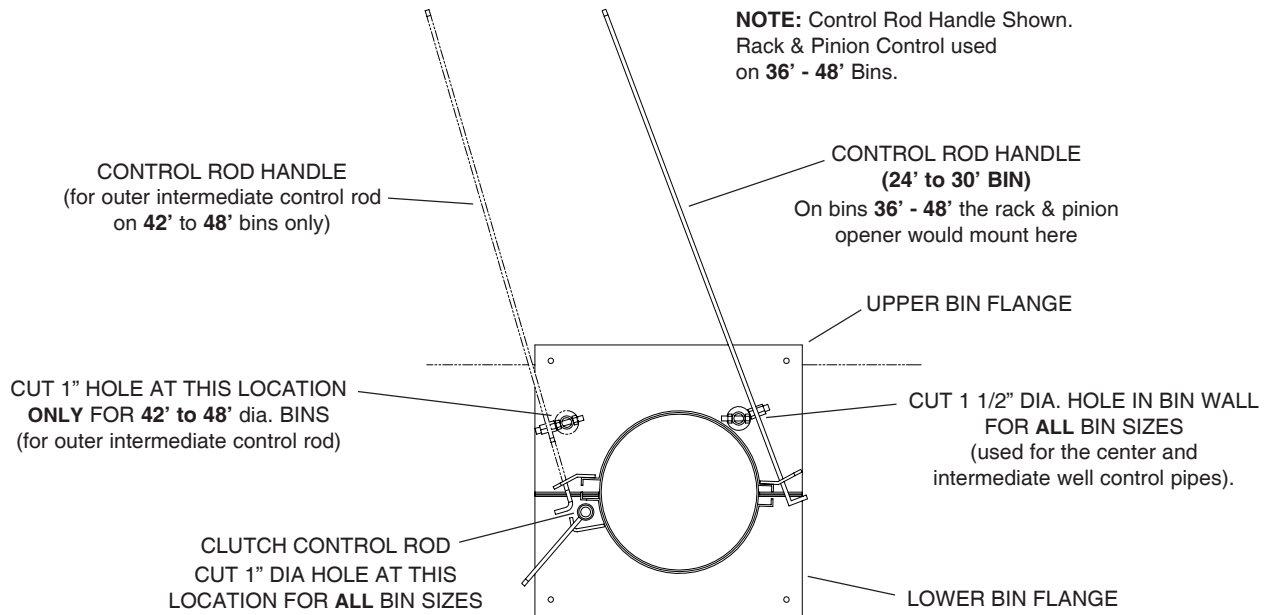
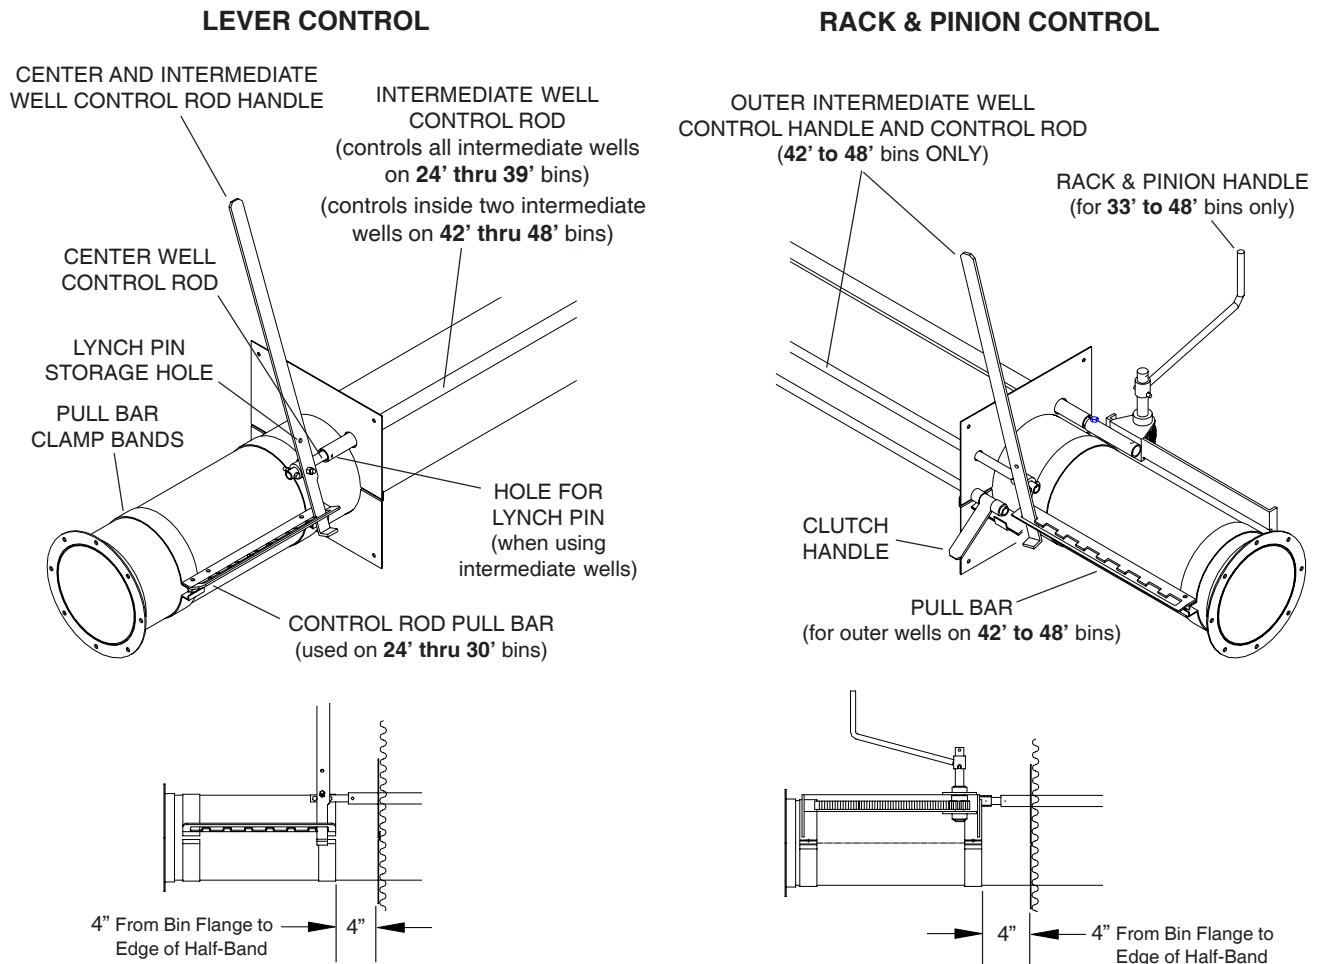

FIG. 12
FIG. 18
- B. For **all bin sizes**, cut a 1-1/2" diameter hole for the center and intermediate well pipes (See Figure 12). For bin diameters of **42' to 48' only**, cut a 1" diameter hole on the upper flange (left side of the unloading tube) for the outer intermediate well control pipes (See Figure 12).
- C. For **all bin sizes**, cut a 1" diameter hole for the clutch control pipe located lower left of the unloading tube. (See Figure 12).
8. Install control rod handle and pull bar assembly onto the unloading tube (See Fig. 18), also reference Fig. 5 on Page 8 and Fig. 12 on Page 14.
- A. Attach control rod pull bar to the unloading auger housing using 10" x 2" half-bands and 5/16 x 1 1/2" bolts and nuts (position edge of half-band 4" from bin flange, See Fig. 18). **Insert bolts from the bottom and install nuts on top** (the bands may need to be rotated slightly to provide clearance between the half-band bolt heads and clutch handle).
- B. Install the control rod handle by inserting the bent end through the notched slot in the pull bar (the bent end of the handle should point away from the unloading tube). Slide the pivot tube attached to the handle, over the 7/8" control pipe and secure using two (2) 5/16 x 1 1/2" bolts and locknuts (the bolts will pass through the sides of the control pipe with the pivot tube sandwiched between them).
- D. On **33' thru 48'** bins, install the rack and pinion handle assembly as shown in Fig. 18 using 10" x 2" wide half-bands (position edge of half-band 4" from bin flange). **Note:** On **42' to 48'** bins, the pull bar also needs to be mounted at the same time. The rack should be positioned vertical and aligned with the center well control pipe. Install the handle and secure using one 5/16 x 1 1/2" bolt and locknut.